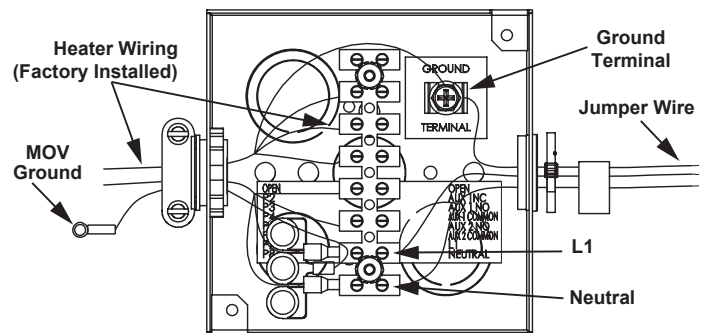

Figure 30. Junction Box
The 120 VAC hot wire from the power supply must connect to the black jumper wire or the “L1” terminal block location in the junction box and the 120 VAC neutral wire must connect to the white jumper wire or the “Neutral” terminal block location in the junction box for correct polarity. See *Figure 30* (page 32).
If the black jumper wire is used, make the connection inside of the junction box with a properly sized wire nut and wrap electrical tape around the wire nut and wire end. See *Figure 30* (page 32) and the wiring diagram *Figure 41* (page 63).
4. Connect the 120 VAC neutral wire from the power supply to the white jumper wire or the terminal block location marked “Neutral” inside of the junction box located on top of the water heater. If the white jumper wire is used, make the connection inside of the tape around the wire nut and wire end. See *Figure 30* (page 32) and the wiring diagram *Figure 41* (page 63).
Connect the ground wire from the power supply to the green jumper wire or the ground terminal location inside of the junction box located on top of the water heater. If the green jumper wire is used, make the connection inside of the junction box with a properly sized wire nut and wrap electrical tape around the wire nut and wire end. See the junction box *Figure 30* and wiring diagram *Figure 32* (page 36).